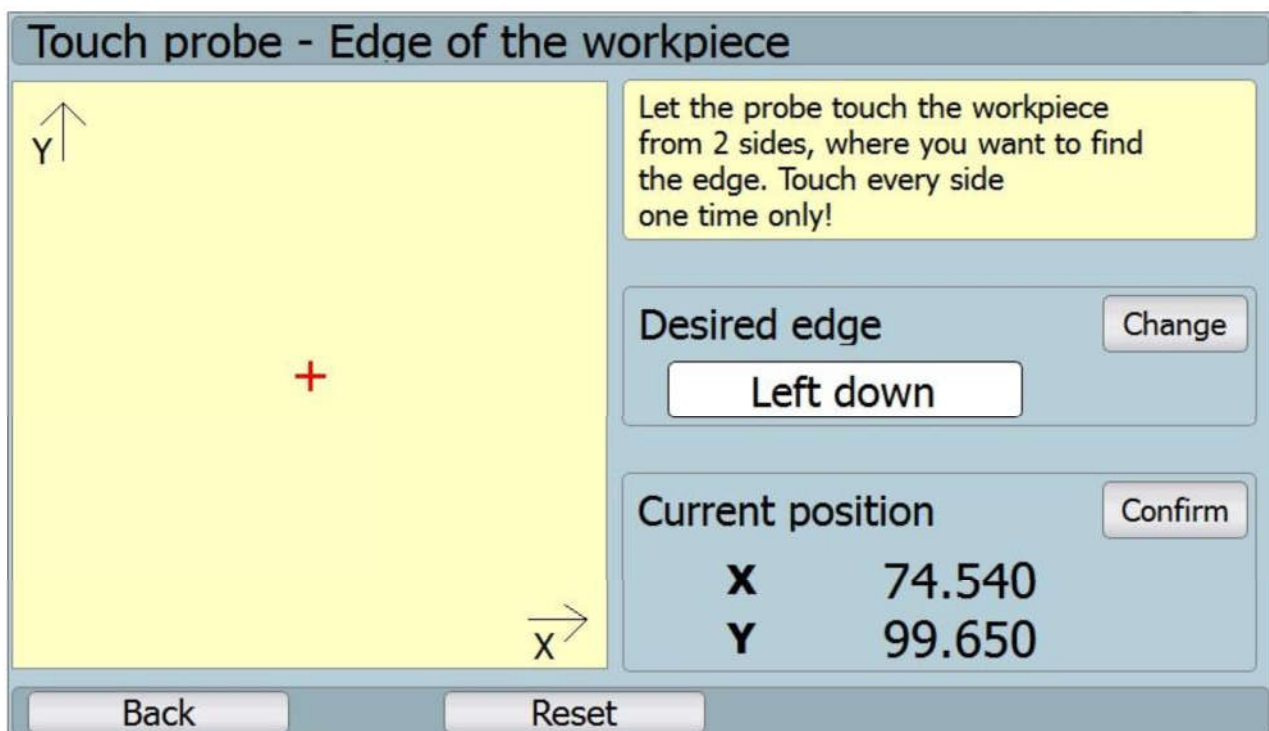
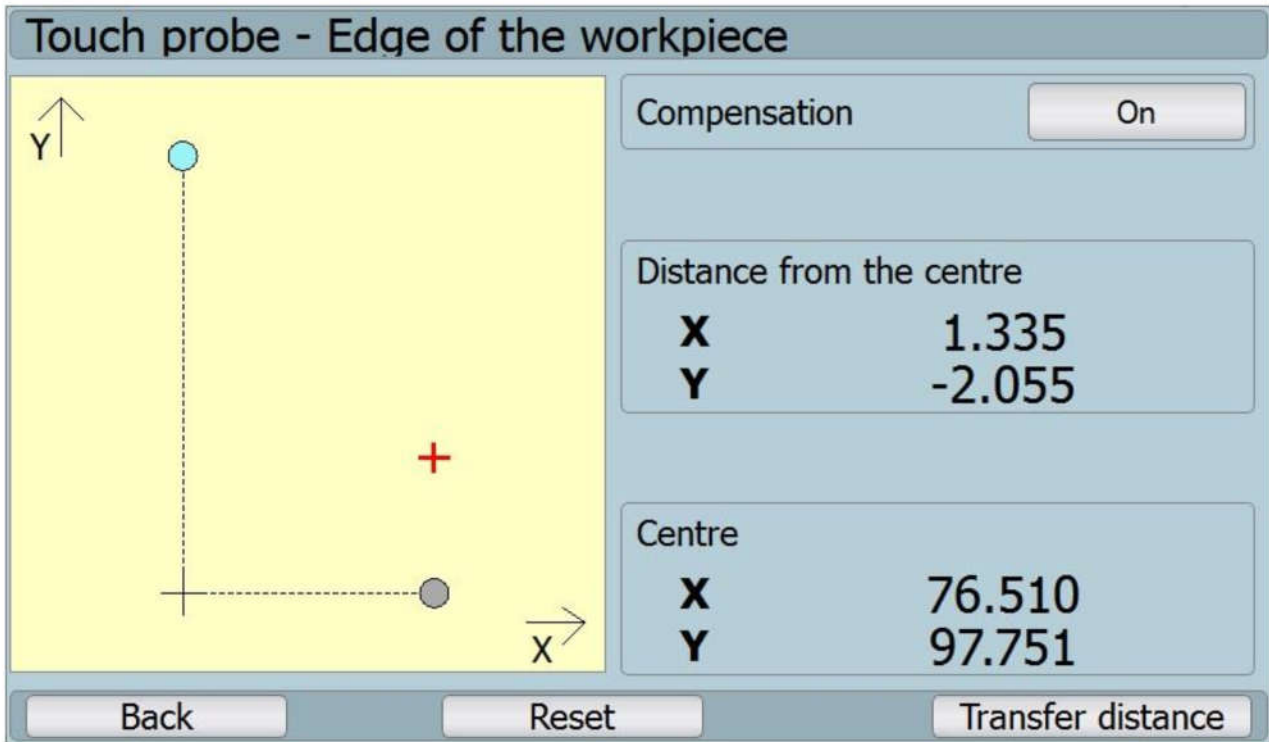

Fig. 50: Touch probe – workpiece edge
Fig. 51: Touch probe – workpiece edge – found centre
- ⑩ It is used for finding the rectangular (square) workpiece edge entered by means of two points on the touch probe.
- ⑩ At first set the searched edge with button „**Zmenit**“ (change) at the searched edge (see fig. 50: Touch probe – workpiece edge)
- ⑩ Move the touch probe on the workpiece walls to find the edge.
- ⑩ After the probe reaches the required coordinate, press button „**Potvrdit**“ (confirm) to draw their position and found centre of the workpiece edge (see fig. 51: Touch probe – workpiece edge – found centre).
- ⑩ It displays value of coordinates of the found edge centre, and it displays data on the workpiece edge centre distance from the touch probe coordinates.
- ⑩ Button „**Zapnuto/Vypnuto**“ (on/off) for the compensation edits values of the edge centre coordinates as per the defined compensation received during the calibration of the touch probe on the circle (see chapter **Chyba! Záložka není definována.**).
- ⑩ Button „**Reset**“ sets everything into the initial setting.